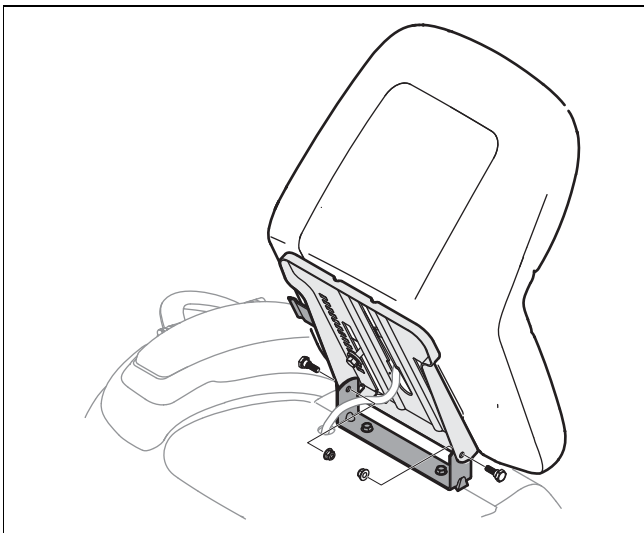

Figure 3
2. Align the front holes of the seat mounting bracket with the holes in the seat pivot bracket on your tractor and secure with previously removed hex screws and nuts. See Figure 3.